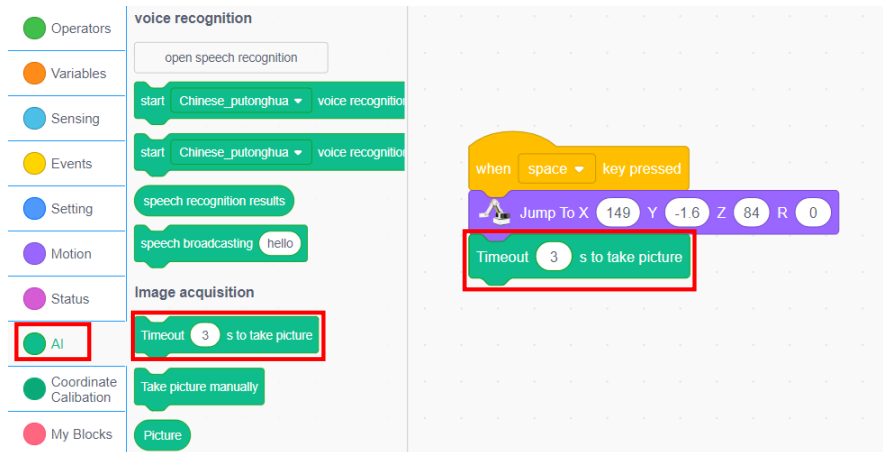

Figure 4.14 Getting the image
Step 3: Open the camera and get the picture. Click the "AI" tab, drag the block "Timeout (3)s to take picture" from "Image acquisition" to connect the previous block, as shown in Figure 4.14.